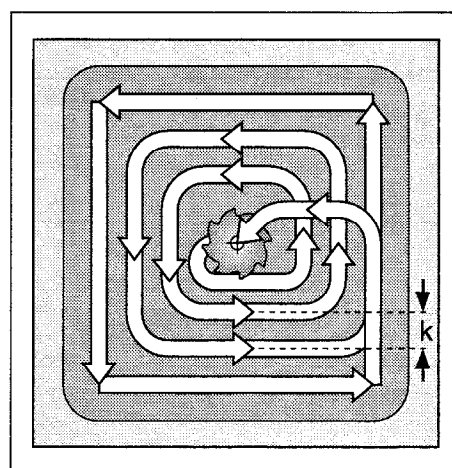

Fig. 8.10: Tool path for roughing-out
- the tool subsequently follows the programmed path at the specified feed rate (see Figure 8.10)